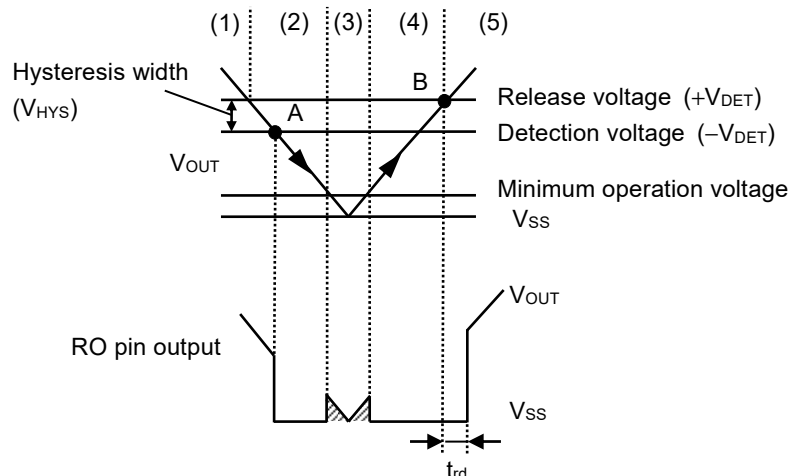

Figure 22 Timing Chart of Detector Block
- (1) When the output voltage (V_{OUT}) of the regulator is release voltage ($+V_{DET}$) of the detector or higher, the Nch transistor (N1 and N2) are turned off and "H" is output to the RO pin. Since the Pch transistor (P1) is turned on, the input voltage to the comparator (C1) is $\frac{R_B \cdot V_{OUT}}{R_A + R_B}$.
- (2) Even if V_{OUT} decreases to $+V_{DET}$ or lower, "H" is output to the RO pin when V_{OUT} is the detection voltage ($-V_{DET}$) or higher. When V_{OUT} decreases to $-V_{DET}$ (point A in **Figure 22**) or lower, N1 which is controlled by C1 is turned on, and C_{DLY} is discharged. At the same time, N2, which is controlled by the delay circuit, is turned on, and "L" is output to the RO pin. At this time, P1 is turned off, and the input voltage to C1 is $\frac{R_B \cdot V_{OUT}}{R_A + R_B + R_C}$.
- (3) If V_{OUT} further decreases to the IC's minimum operation voltage or lower, the RO pin output becomes uncertain. If the RO pin is pulled up, "H" is output.
- (4) When V_{OUT} increases to the IC's minimum operation voltage or higher, "L" is output to the RO pin. Moreover, even if V_{OUT} exceeds $-V_{DET}$, the output is "L" when V_{OUT} is lower than $+V_{DET}$.
- (5) When V_{OUT} increases to $+V_{DET}$ (point B in **Figure 22**) or higher, N1 is turned off and C_{DLY} is charged. When V_{DLY} increases to the threshold voltage (1.25 V typ.), N2, which is controlled by a delay circuit, is turned off and "H" is output to the RO pin.